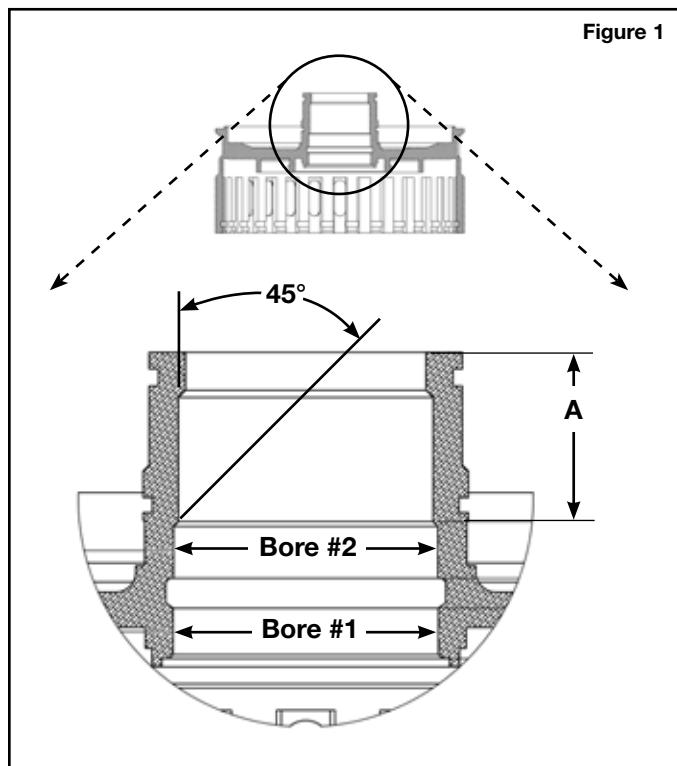

Figure 2
- Using a single point boring bar, re-bore inside diameters of bore #1 and bore #2 to dimensions shown under "Machined Bore Measurement" (Figure 2).